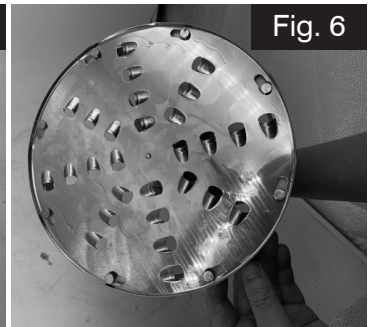

Fig. 6
3. Push the disc holder assembly down and turn to lock both disc and pin into place. (Fig. 6)